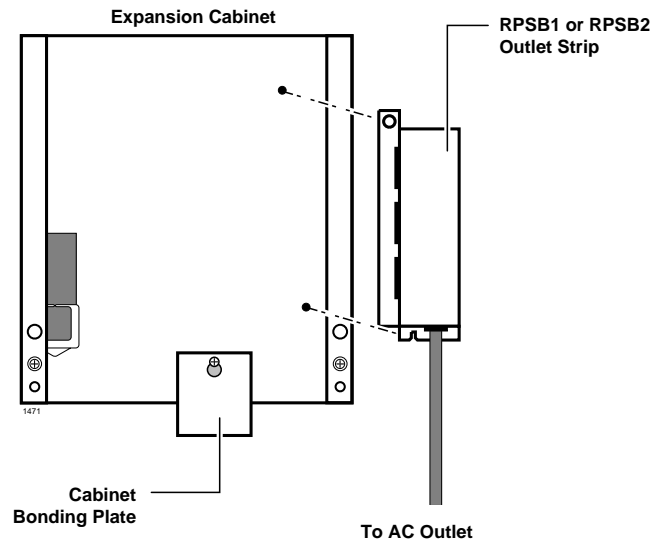

Figure 5-19 Outlet Strip (RPSB1 and RPSB2) Installation
2. If two cabinets are installed and local electrical code allows only one AC power cord from the system, install the RPSB2 in the bottom cabinet per Figures 5-19 and 5-20.
Refer to Figures 5-19~5-22 and follow these steps:
Refer to Figures 5-19~5-19, 5-22, 5-26 and 5-27, and follow these steps: